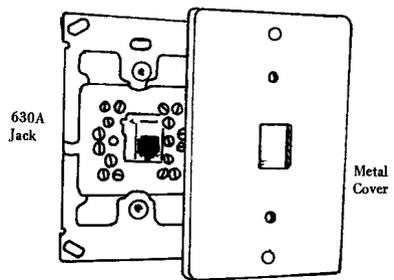

FIGURE 6. 630A Wall Telephone Modular Jack
2.08 **630A Wall Telephone Jack Mounting (Figure 6):** These jacks are designed for use with all wall-mounted telephone sets which have been equipped with the appropriate adapters. The metal cover assembly of the jack has two lugs which mate with corresponding keyholed slots in the telephone set adapter and permit installation or removal of the set for portability. These jacks can be mounted to a standard electrical outlet box for prewired installations, or directly to a wall surface using the optional spacer and the appropriate mounting hardware. See paragraph 2.11.